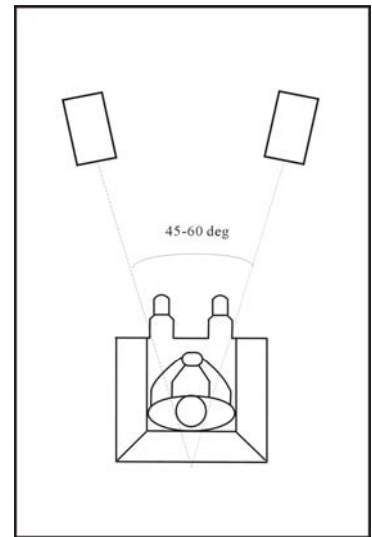

fig. 1
- It is recommended the loudspeakers and the listener to be in the direction of long axis. **Please see the fig.1.** If the loudspeakers and listener are located in the direction of short axis, the sound quality will not be as refined due to wall reflections. If you have no choice to set up this way, you may need to do some sound absorbing treatment on the front and back walls. The shape and size of the room have a great influence in the outcome. You should experiment with positioning a number of times to find the SWEET SPOT.